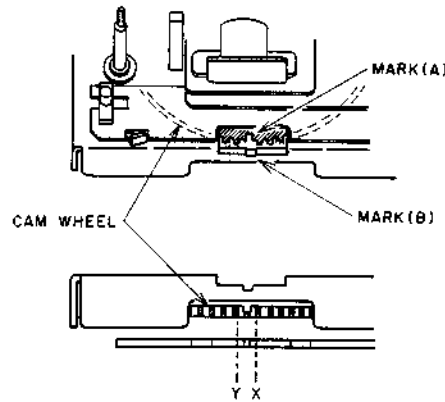

Fig. 4-5.
- b. Adjust VR1 slightly so that the center of Marker (A) coincides with the center of Marker (B) (should be within the range between X and Y) at STOP Mode as shown in Fig. 4-5. (The marker (STOP) on the CAM WHEEL can be seen clearly by lighting it from the back.)